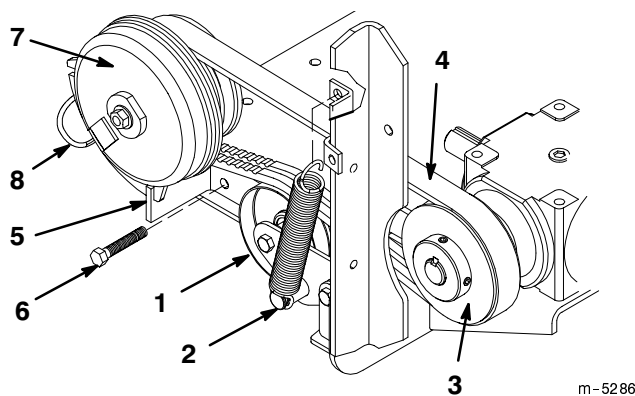

Figure 85
1. Hold spring loaded idler against belt, using a rag or thickly-padded glove, and pull spring down to remove from idler stud (Fig. 85).
2. Lower idler to relax tension on PTO belt and remove belt from gear box pulley (Fig. 85).
3. Remove clutch stop mounting bolts and unplug clutch wire harness (Fig. 85). Remove belt over clutch.
5. Hold spring loaded idler against belt and pull spring down to install onto idler stud (Fig. 85).
6. Install clutch stop (Fig. 85). Tighten mounting bolts securely.